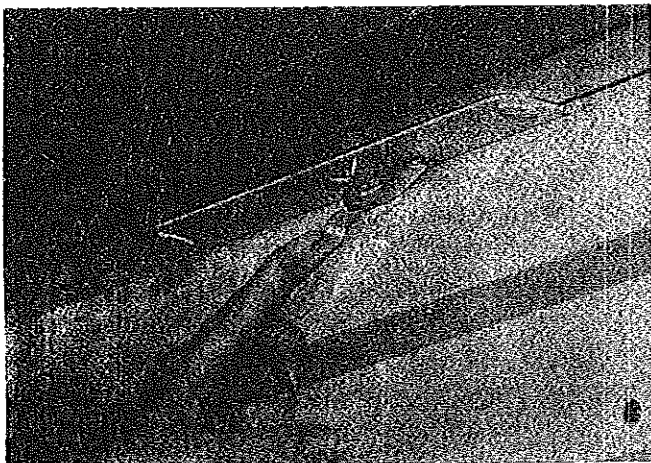
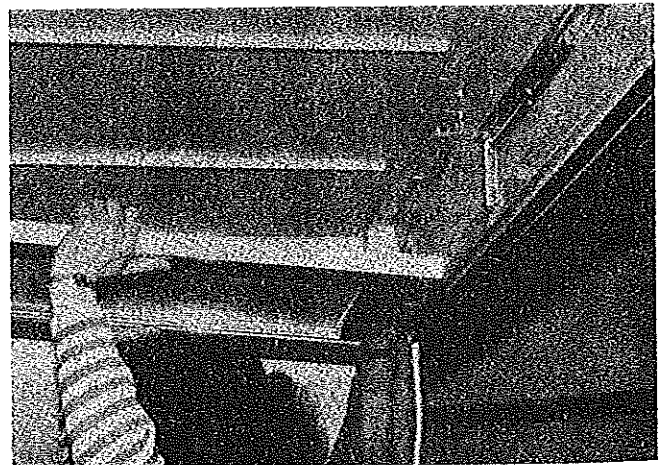

FIGURE 22
FIGURE 23
24. Standing at the door opening, pull down on the spring-loaded pin clip retaining the door frame and swivel clear of the engagement hole. See Figure 22. Standing at the door threshold, reach up and grasp the bottom of the screen door with both hands. Raise and push the door toward the far side of the trailer to release it from its retaining brackets. See Figure 23.